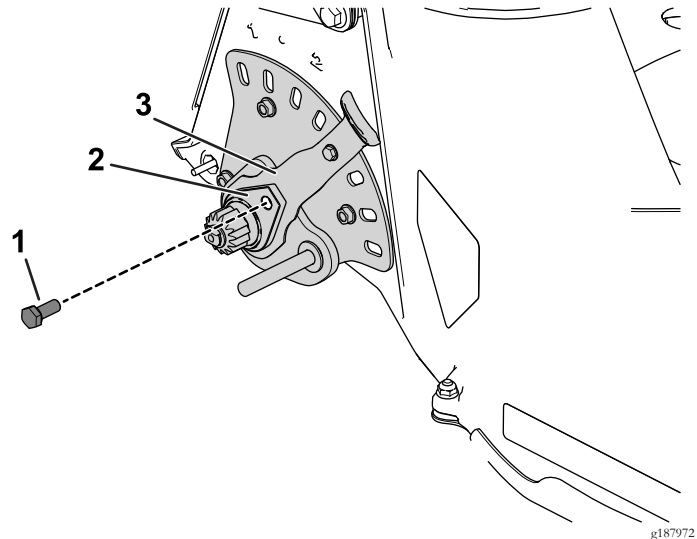

Figure 4
3. Remove the bolt from the retainer and discard it (Figure 4).
3. Use the bolt (5/16 x 3/4 inch) to secure the retainer to the height-of-cut lever (Figure 4).